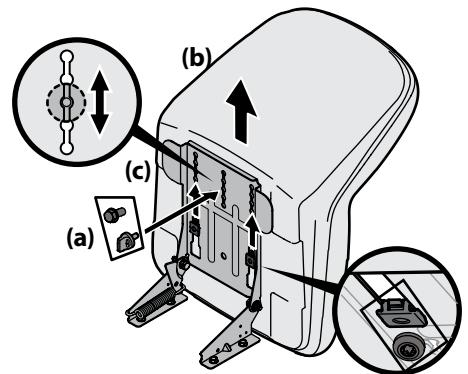

Figure 2-6
- Slide the seat (b) rearward in the seat pivot bracket (c), lining up the center rear slot in the seat pivot bracket (c) with the remaining hole in the seat (b) base. See Figure 2-6.
- NOTE:** Be certain the two seat tabs (square or round) engage the seat pivot bracket as shown in the bottom right inset of Figure 2-6.
- Select the desired position for the seat (b), and secure with the adjustment knob/bolt (a) removed in Step 1. See Figure 2-6.
- To adjust the position of the seat, remove the adjustment knob/bolt (a) on the bottom of the seat (b). Slide the seat (b) forward or backward as desired. Reinstall the adjustment knob (a). See Figure 2-6.